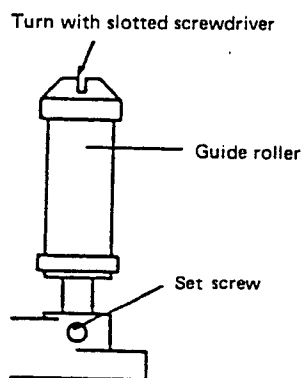

Fig. 25 Guide roller height adjustment
1. Slightly loosen setscrews of the supply and take-up guide rollers as shown in Fig. 25.